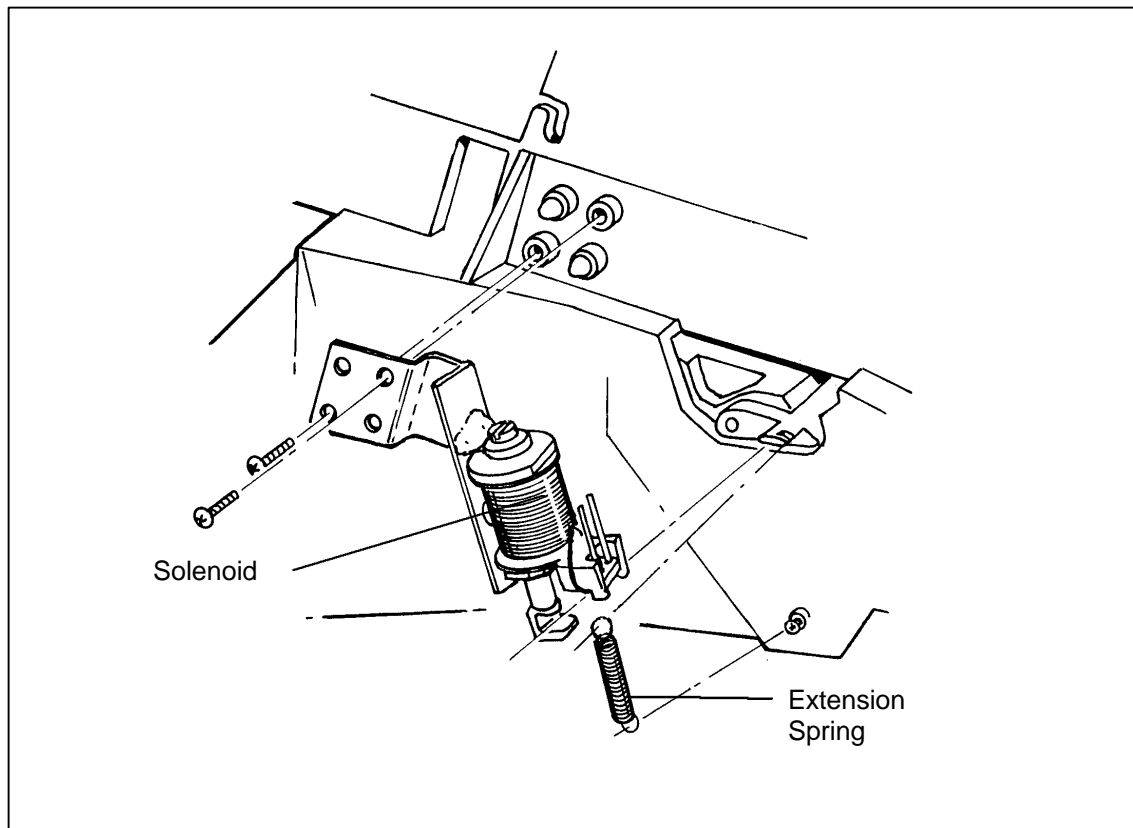

Figure 5-14 Shutter Solenoid Assembly
1. Removal (Figure 5-14)
- d. Using a torx driver, remove the two (2) screws securing the solenoid assembly to the viewfinder housing.